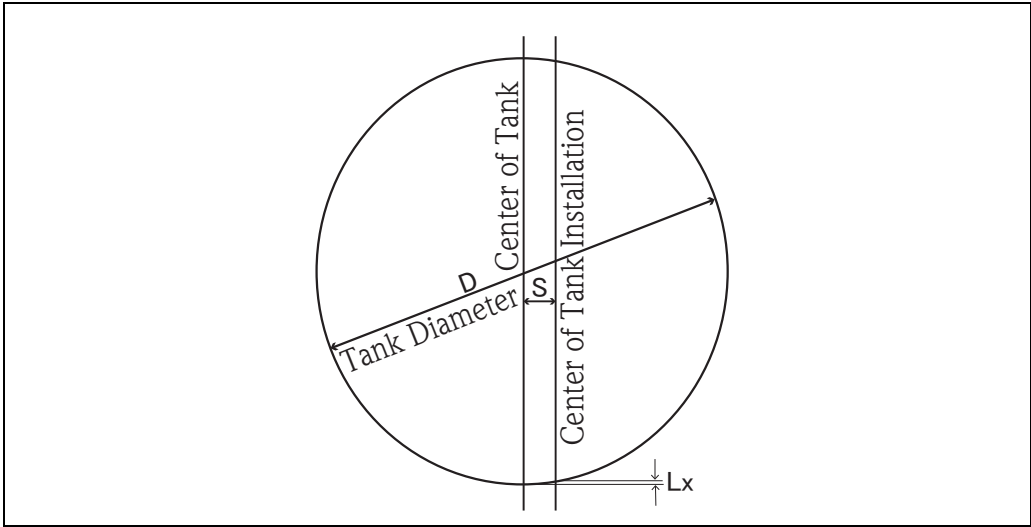

Figure 45: Setting Indicator of Spherical Tank
- When handle reaches the A position, shown in Figure 45, the float is freed from the handle. Remove the handle while float is in use.